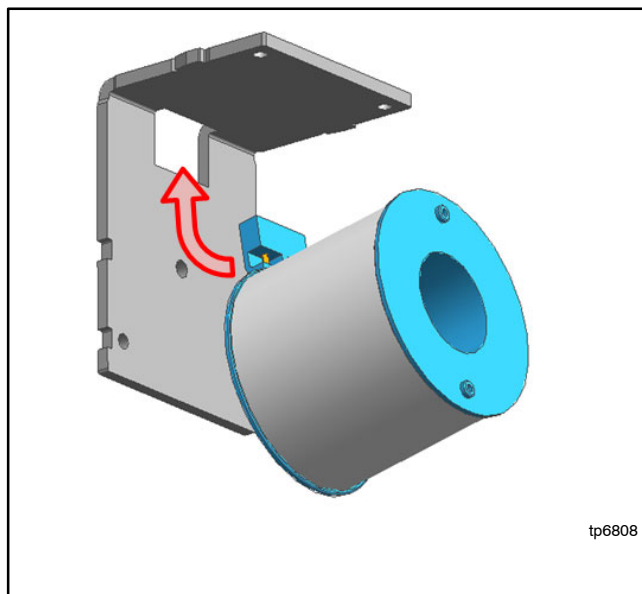

Figure 7-72 Coil Terminal In Steel Frame
1. Insert the terminal block section of the coil into the opening in the steel frame. See Figure 7-72.